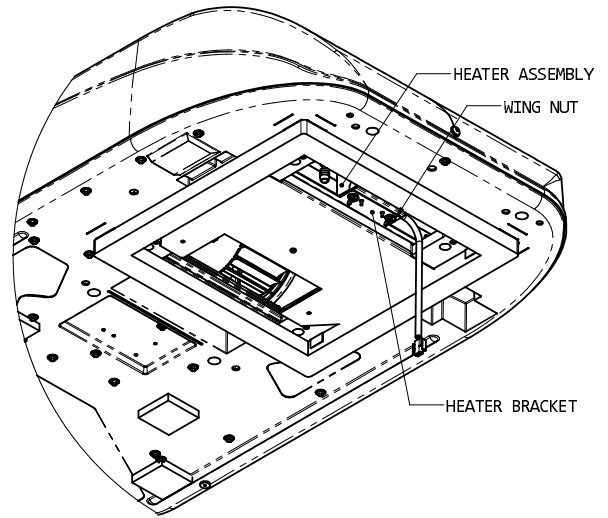

FIGURE 5
- C. Step "C" applies only if optional 47233*4551 Resistance Heat Kit is installed at this time. If installed, mount the heater bracket on the weld studs on the channels in the return air opening as shown in Figure 5. Secure the heater bracket using wing nuts provided. The heater is then assembled